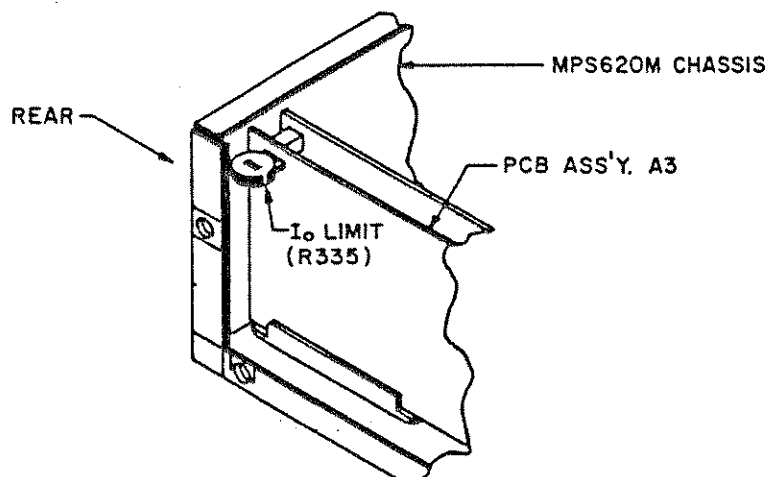

FIG. 2-3 LOCATION OF THE INTERNAL CURRENT LIMIT ADJUSTMENT FOR THE (\pm) 20V, 1A SUPPLY
c) INTERNAL CONTROL: See FIG. 2-3.